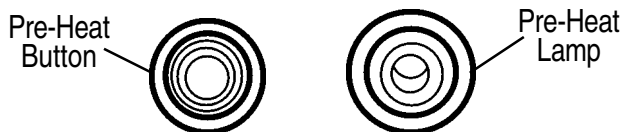

Figure 59. Pre-Heat Button/ Lamp
3. Press and hold the engine preheat button (Figure 59) until the preheat lamp is lit (**ON**).